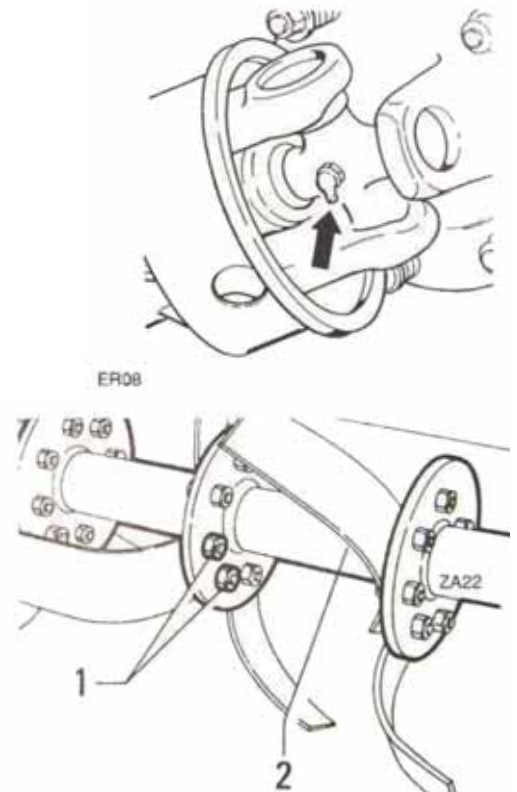

Figure 13
- Make sure that the power take-off shaft remains in good condition and regularly lubricate it (Fig. 13).
- Check whether bolts "1" that keep blades "2" in their positions have been correctly tightened (Fig. 13).